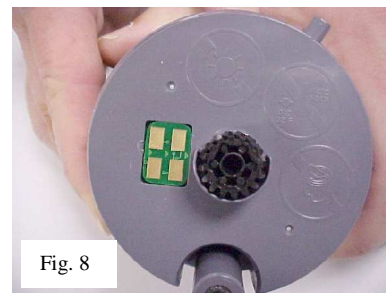

Fig. 8
- 11 Replace removed chip with the appropriate Samsung CLP-300 chip. The arrows on new chip must face toward center of cartridge] (Figure 8).